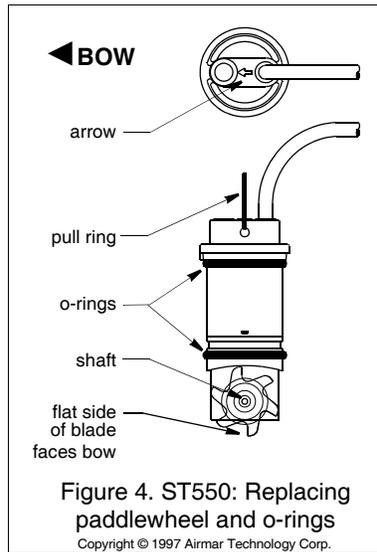

Figure 4. ST550: Replacing paddlewheel and o-rings
1. On the blanking plug, inspect the o-rings (replace if necessary) and lubricate them with silicone grease or petroleum jelly (see Figure 4). The o-rings must be intact and well lubricated to make a watertight seal.
1. Using the new paddlewheel shaft, push the old shaft out about 6mm (1/4"). With pliers, remove the old shaft (see Figure 4).